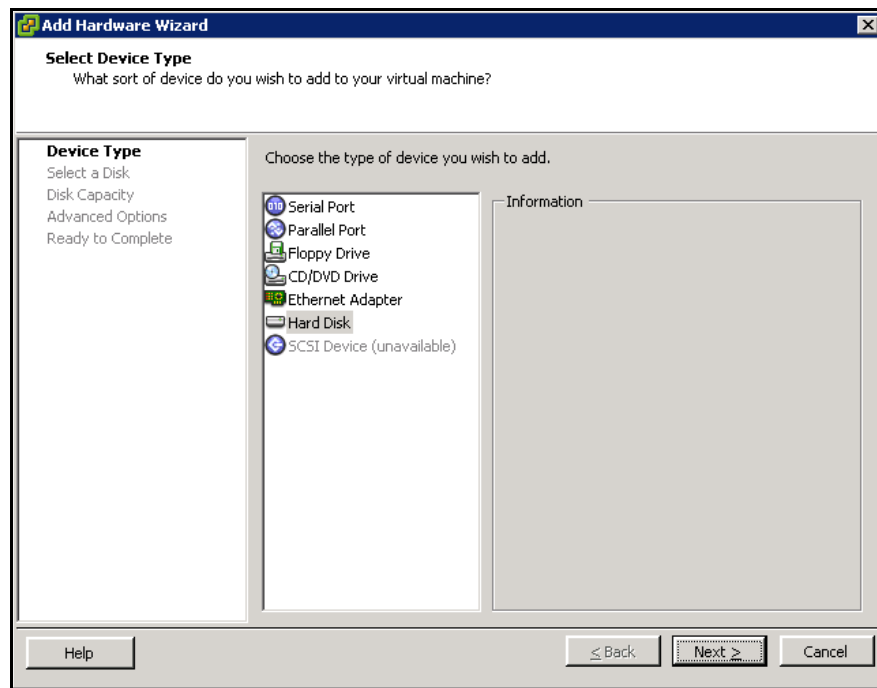

Figure 4-25: Select Device Type Screen (Add Hardware Wizard)
2. Select **Add**. The Add Hardware Device wizard starts, with the Select Device Type screen displayed (Figure 4-25 on page 4-21).